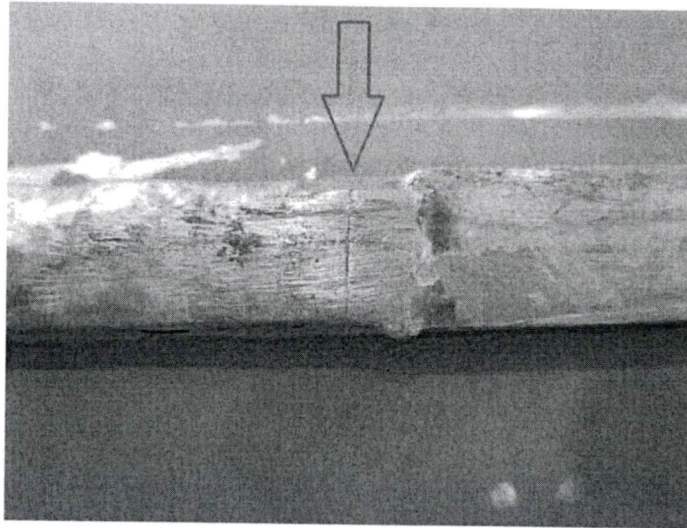

Figure 5-1 – Cracks in Wearbars
For skidtubes equipped with training wearplates, the weld beads on the wearbars may be built back up to 0.20" (5 mm) to 0.30" (8 mm) thick per AMS STD 2219 using 2059B hard coat welding rod. If the wearbars have been worn down to less than 0.06" (1.5 mm) thick, the wearplate must be replaced. Cracks in the wearbars that are perpendicular to the axis of the skidtube (as shown in Figure 5-1) are permissible and do not hinder the performance of the
- 5.2.3 Inspect the skidtube assembly for serious damage in any of the areas indicated by "X" in Figure 5-1. Serious damage is defined as follows:
- 5.2.4 Inspect the sides of the skidtube for excessive wear/damage. Dents up to 2.00" (51 mm) long x 1.00" (25 mm) wide x 0.12" (3.0 mm) deep are acceptable in the areas indicated 'OK' in Figure 5-1. Damaged areas should be a minimum of 3.00" (76 mm) apart.
- 5.2.5 Cracks on the sides (areas indicated by 'OK' in Figure 5-1) of the skidtubes that do not exceed 1.00" (25 mm) in length can be repaired by T.I.G. welding as follows: